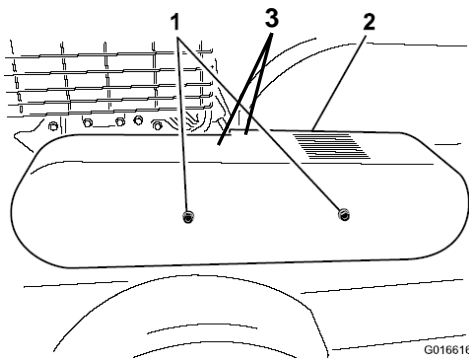

Figure 28
2. Remove the belt guard (Figure 28).